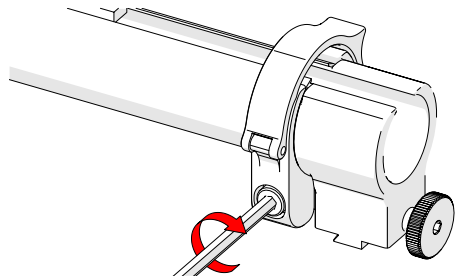

Fig. 86 - Tighten clamp screw
4. Tighten the clamp screw (Fig. 86).